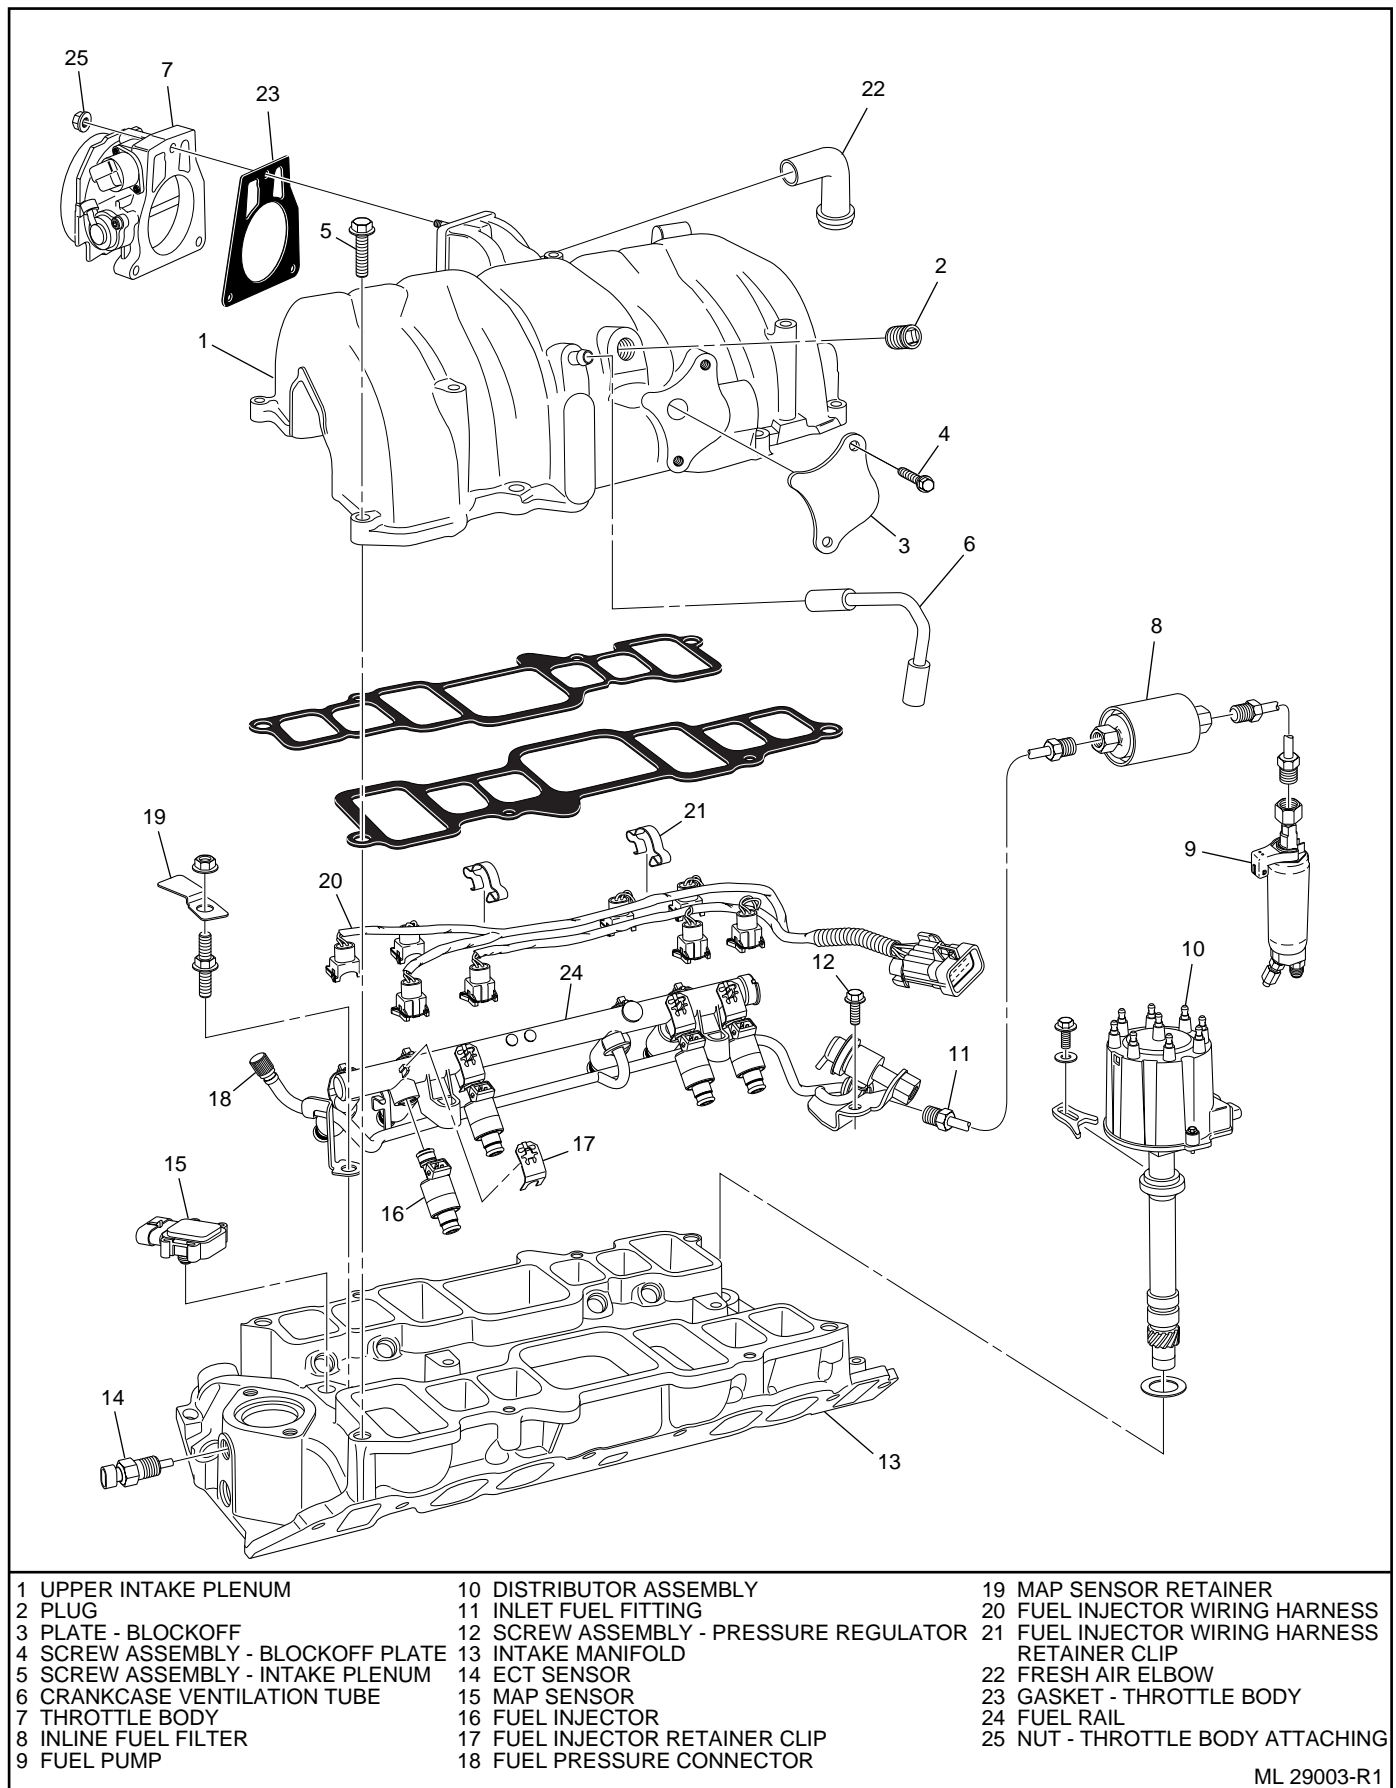

Figure 3-13 - Intake and Fuel System
3. All plenum retaining bolts. Torque to 14 Nîm (124 lb.in.) in sequence as shown in Figure 3-13.
Figures 3-13 and 3-14
The fuel rail should be removed as an assembly with the injectors attached. Names of component parts will be found on the numbered list that accompanies the disassembled view (Figure 3-13).